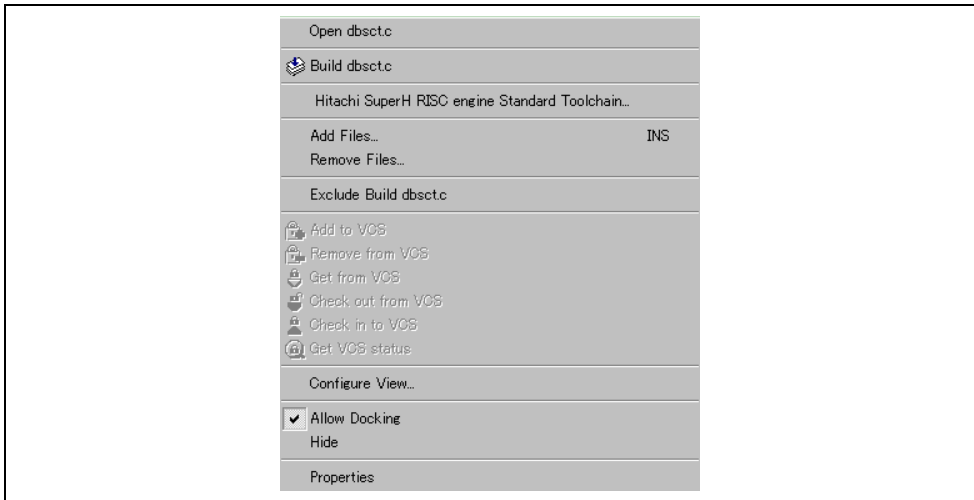
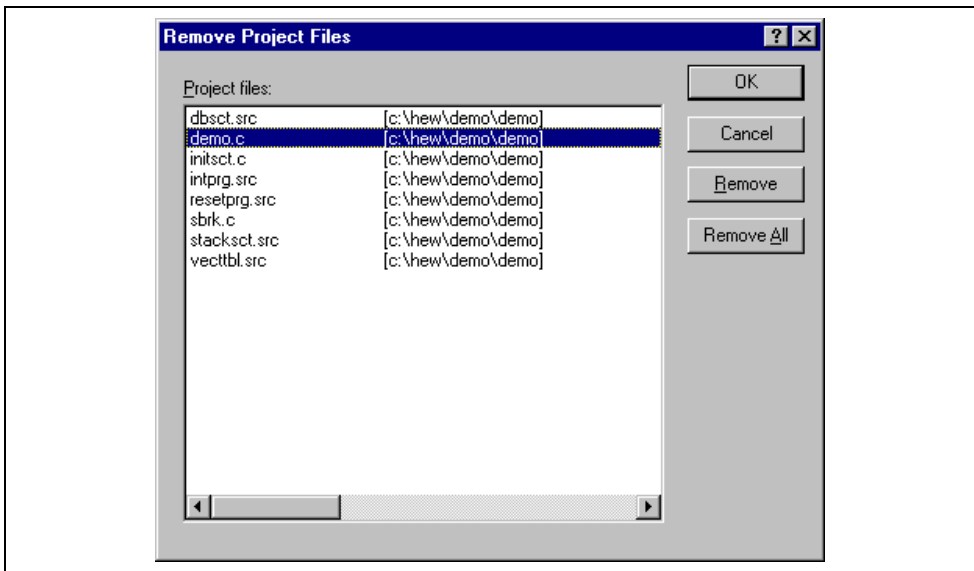

Figure 2.5: Projects Tab Pop-up Menu
Figure 2.6: Remove Project Files Dialog
1. Select [**Project->Remove Files...**], or select [**Remove Files...**] from the “Projects” tab’s pop-up menu in the Workspace window (see figure 2.5). The “Remove Project Files” dialog will be displayed (figure 2.6).
2. Select [**Exclude Build file**], where <file> is the selected file, from the pop-up menu (figure 2.5). Then a red cross will be put on the file’s icon, and the file will be excluded from build.